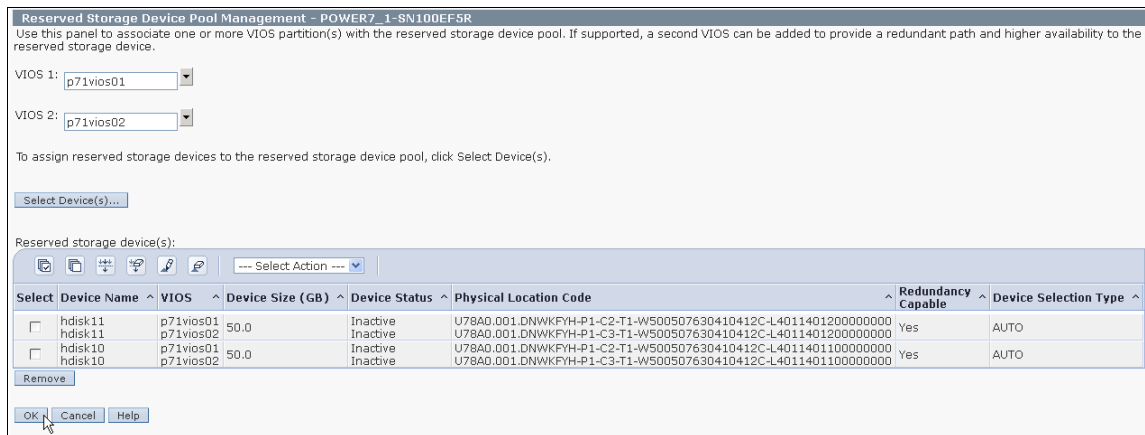

Figure 13-10 Removing a device from reserved storage device pool validation
- Review the list of devices in the reserved storage device pool as shown in Figure 13-10, then click **OK** to complete the device removal operation.